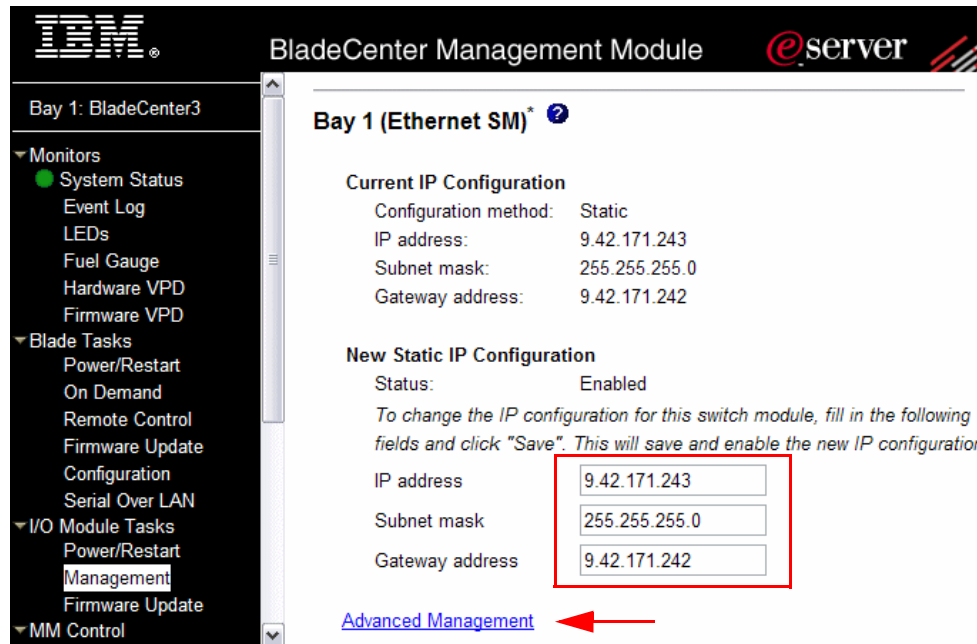

Figure 6-4 I/O Module Tasks: Management (Bay 1 Ethernet SM) window
To manage the Nortel Networks L2/3 GbESM in bay 1, from the BladeCenter Management Module, click **I/O Module Tasks** → **Management**. A window similar to the one in Figure 6-4 opens.
1. In the I/O Module Tasks → Management (Bay 1 Ethernet SM) window shown in Figure 6-4 on page 47, click **Advanced Management**.